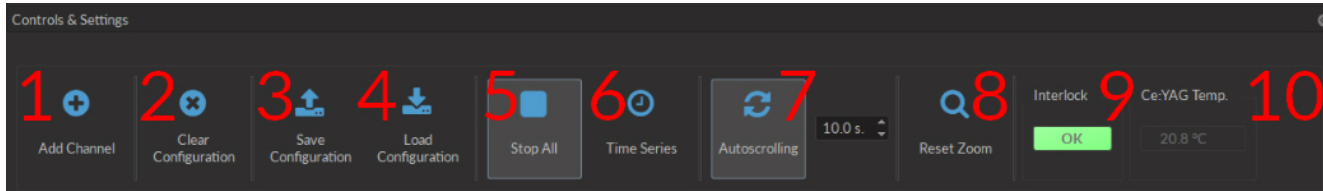

Figure 3.11: Control & Settings
1. The **Add channel** button (Fig. 3.11) opens the **Channel Configuration** window 3.2. See section 3.1.1 for more details.
2. The **Clear Configuration** button (Fig. 3.11) clears all configuration channels. Cleared channels cannot be recovered unless previously saved.
5. The **Start All** button (Fig. 3.11) starts all currently configured channels.